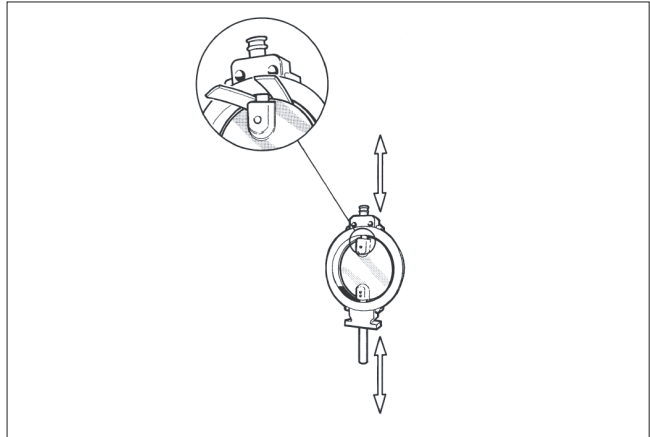

Fig. 15 Protecting the disc during disassembly and assembly
- Set the disc (3) and the shaft (5 & 6) together beforehand. In case the pin holes have been damaged during removal of the old pins the holes can be drilled to a larger pin size. File off any burrs from the shafts.
- Mount the bearings (11) into the body (1) from flow port side.
- Place thrust bearings (12) at the end of the shaft
- Place the disc horizontally on a surface so that the flat side of the disc lays against the surface. Lift the body around the disc so that the shaft bores are aligned with the bores in the disc. Protect the disc (see Fig. 15).
- Press the shafts into the disc drillings. Align the pin holes. The shaft (5) position against the disc must be according to Figure 15.